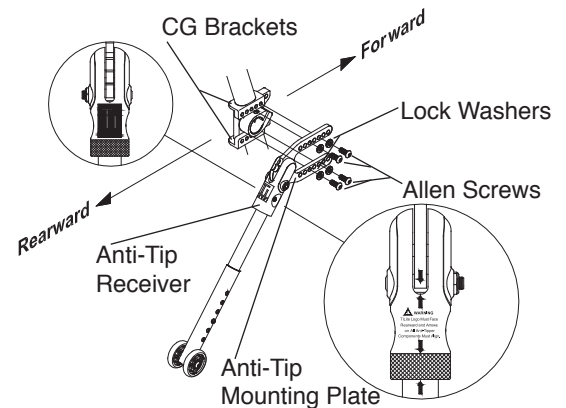

Figure 12
⚠️ WARNING: Do not disassemble the anti-tip mounting assembly (see Figure 12). *If you ignore this warning, you may fall, tip over or lose control of the wheelchair and seriously injure yourself or others or damage the wheelchair.*
3. **⚠️ WARNING:** Make sure that the TiLite logo is visible on the rearward side of the user-friendly anti-tip receivers as shown in Figure 12 and that the white arrows are all aligned on the opposite (forward) side of the anti-tip components as shown in Figure 12. *If you ignore this warning, you may fall, tip over or lose control of the wheelchair and seriously injure yourself or others or damage the wheelchair.*